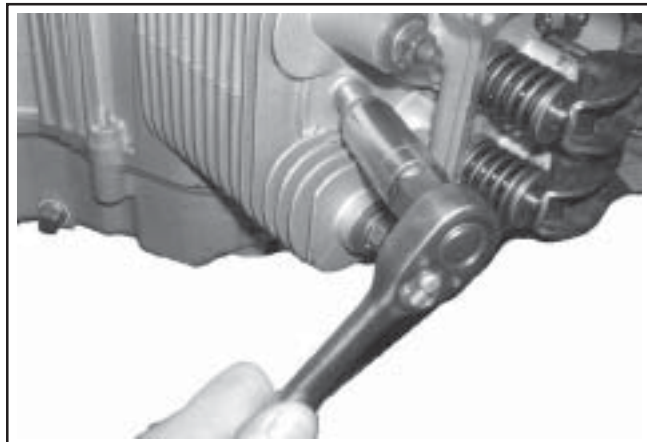

Figure 9-41. Removing Spark Plugs.
1. Remove the spark plug from each cylinder head. See Figure 9-41.